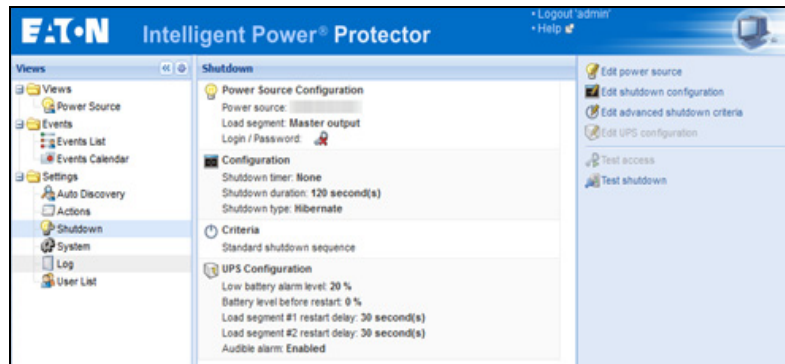

Figure 26. USB/Serial Power Source on Shutdown Page
1. Select the **Settings > Shutdown** menu item. The Shutdown page displays (see Figure 26).